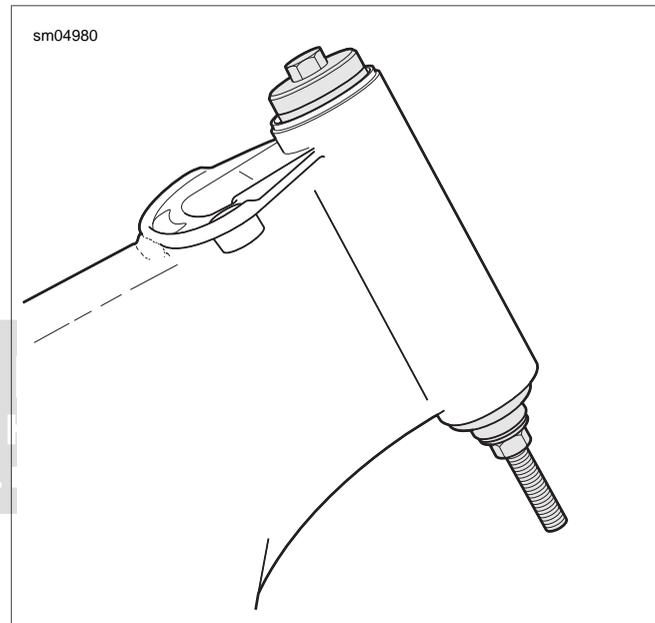

Figure 2-71. Install Steering Head Bearing Cups
- i. While holding head of forcing screw, turn hex nut to simultaneously draw both upper and lower bearing cups into steering head. Continue turning hex nut until cups makes contact with counterbores. See Figure 2-71.